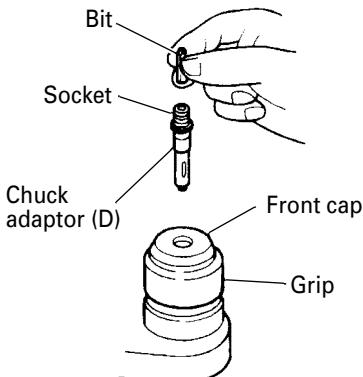

Fig. 15
### 4. When driving machine screws (Fig. 15)
- (1) Mount the bull point or cold chisel.
6. When driving wood screws (Fig. 15)